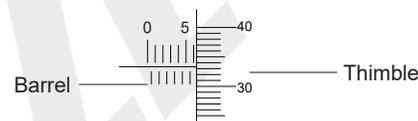

fig.1
- Insert the spanner into the small hole of the sleeve, and turn the sleeve slightly until the zero mark of the friction thimble is aligned with the mark of the sleeve (Fig.1) to complete the calibration.